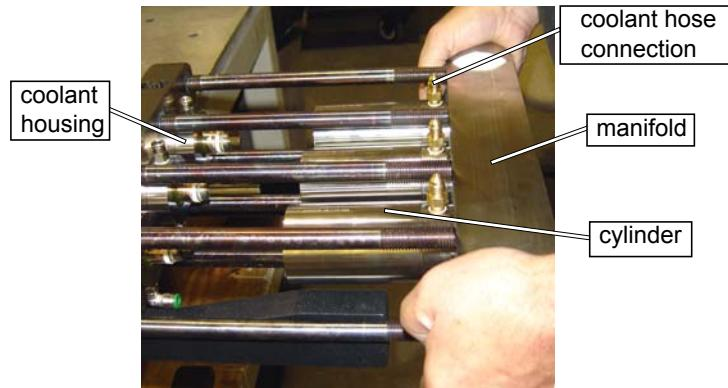

Figure 6-5
7. Slide the **wet end assembly** away from the **coolant housings**. See Figure 6-5. Keep the assembly level and square, being careful not to bind the internal Plungers. All components typically stay in the **cylinders** as the wet end assembly is removed.